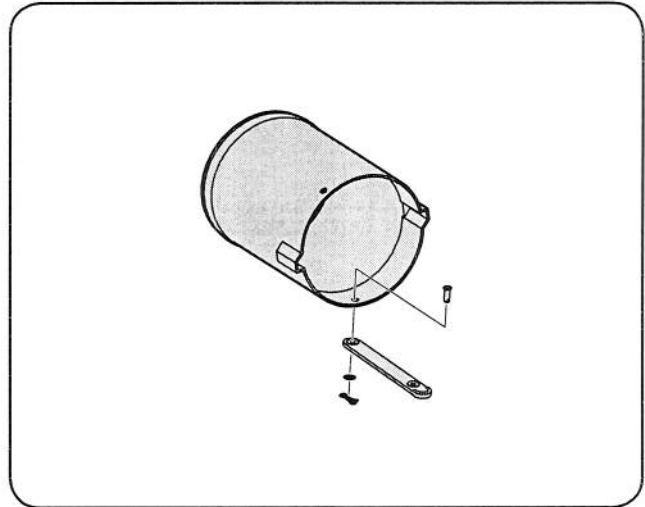

Figure 4-22
13. Install the other rubber strap onto the chute tube extension using the remaining clevis pin, flat washer and bow-tie cotter pin from hardware pack 689-00092B. Attach the end with the hole closest to the end of the strap, as seen in Fig. 4-22. This will make it easier to grab onto the strap to pull, stretch and hook onto the grass-catcher pin previously installed on the chute elbow in the previous step.